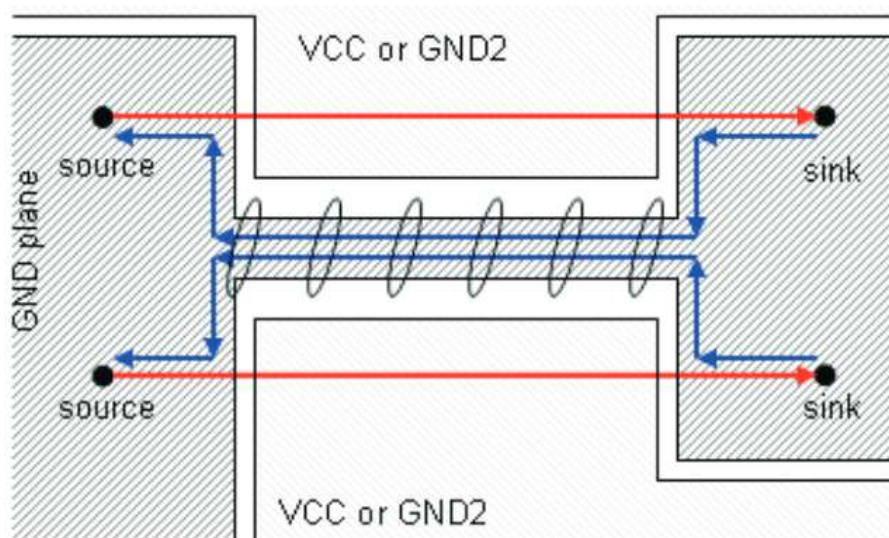

Figure 23. Crosstalk Induced by the Return Current Path
- With a proper signal routing, crosstalk also can arise in the return current path due to discontinuities in the ground plane. Always take care of the return current (Figure 23).
For Figure 23, do not route a signal referenced to digital ground over analog ground and vice versa. The return current cannot take the direct way along the signal trace and so a loop area occurs. Furthermore, the signal induces noise, due to crosstalk (dotted red line) into the analog ground plane.